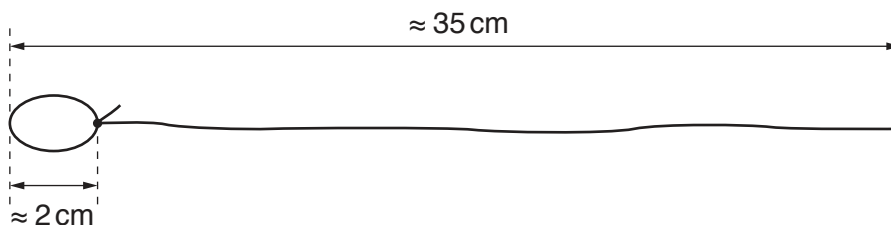

Fig. 2.2
- 2 The two lengths of string should each be tied as shown in Fig. 2.2.